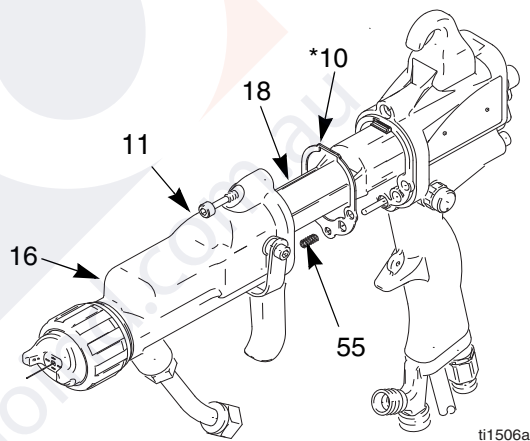

Fig. 16. Barrel Installation
1. Be sure the gasket (10*) and grounding spring (55) are in place. Make sure the air holes are aligned properly. Replace if damaged. See Fig. 16..
2. Place the barrel (16) over the power supply (18) and onto the gun handle (17).
3. Tighten the three screws (11) oppositely and evenly (about a half turn past snug).